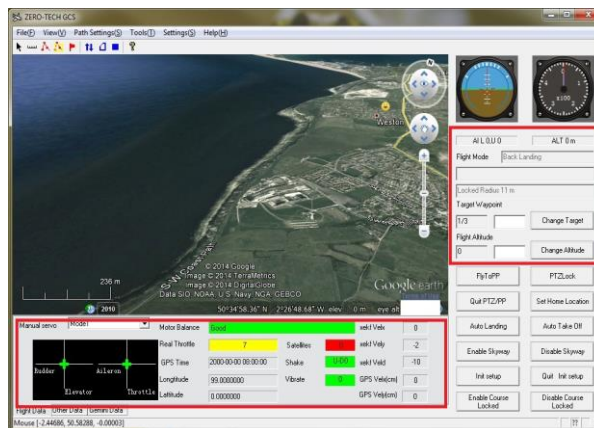

Figure 25
2. Select “File” → “Open Wi-Fi”, the flight data information bar will pop up at the bottom of the ground station window, indicating controller data, as shown in Figure 25.